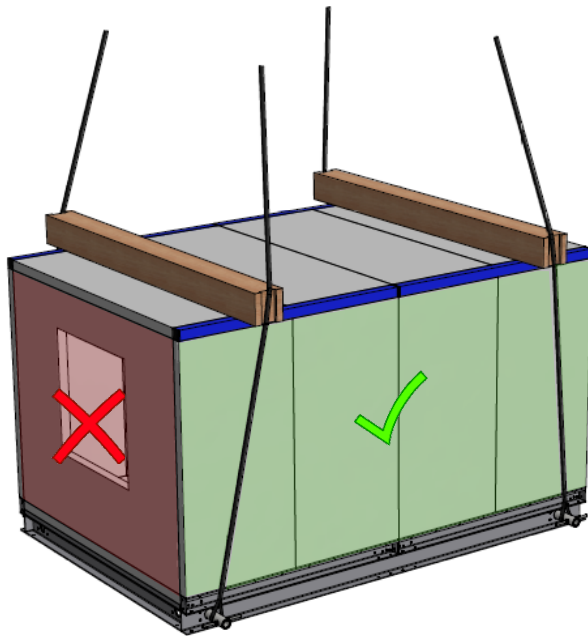
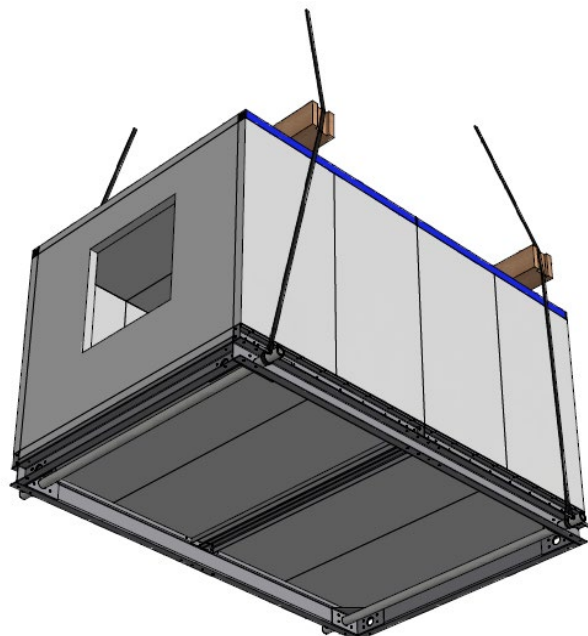

Figure 20: Guiding of load carrying equipment (monobloc)
Figure 21: Uniform load of the form tubes
- Monoblocs are generally delivered with a perforated counter-frame – hole diameter 50 mm – for inserting suitable tubes/rods, where the AHU is lifted, see **Figure 20** and **Figure 21**.